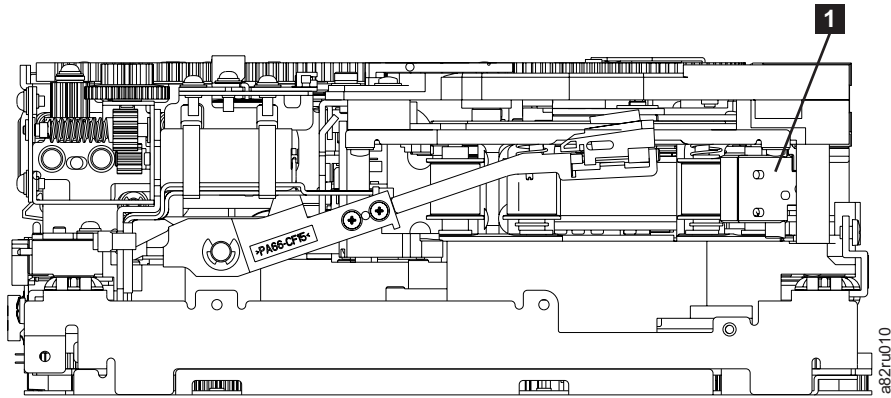

Figure A-13. Leader Block Assembly (LBA)
10. Rotate the threader motor worm gear (**4** in Figure A-12 on page A-13) to turn the threader mechanism gear (**6** in Figure A-12 on page A-13) counterclockwise. This moves the LBA out of the cartridge and past the read/write head. Stop this rotation when the LBA is near the tape guide roller nearest the rear of the drive shown as **1** Figure A-13.